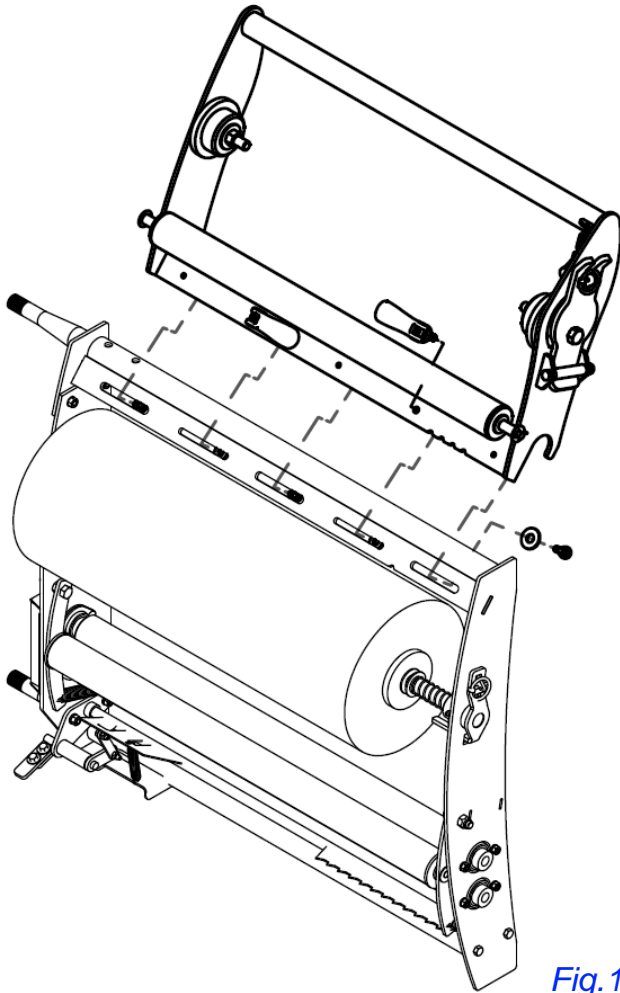

Fig. 1
5. The 3 socket head bolts must be placed through bottom side. Do not fully tighten to allow tensioner to slide. See Fig. 1.